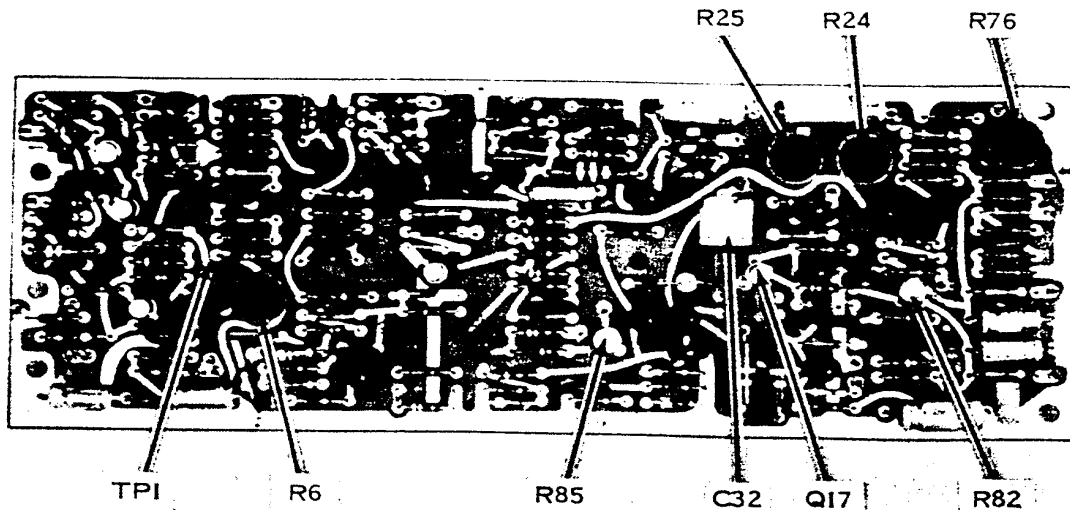

Figure 5. Delay trigger and sweep adjustments.
(2) Move positive lead to A3A5TP1 (fig. 5). If voltage indication is not between +0.64 and +0.66, perform **b(2)** below.
(3) Move positive lead to case of A3A5Q17 (fig. 5). If digital voltmeter does not indicate between -0.24 and -0.26 volt, perform **b(3)** below.
(2) Adjust TRIG LEVEL CENTERING ADJ A3A5R6 (fig. 5) for +0.65 volt indication on digital voltmeter (R).
(3) Adjust A3A5R82 (fig. 5) for -0.25 volt indication on digital voltmeter (R).
(1) Adjust A3A5R24 (fig. 5) until intensified portion of display starts on second graticule line.
(2) Set DELAY VERNIER control to 9.00 and adjust A3AR25 (fig. 5) until intensified portion of display starts on 10th graticule line.